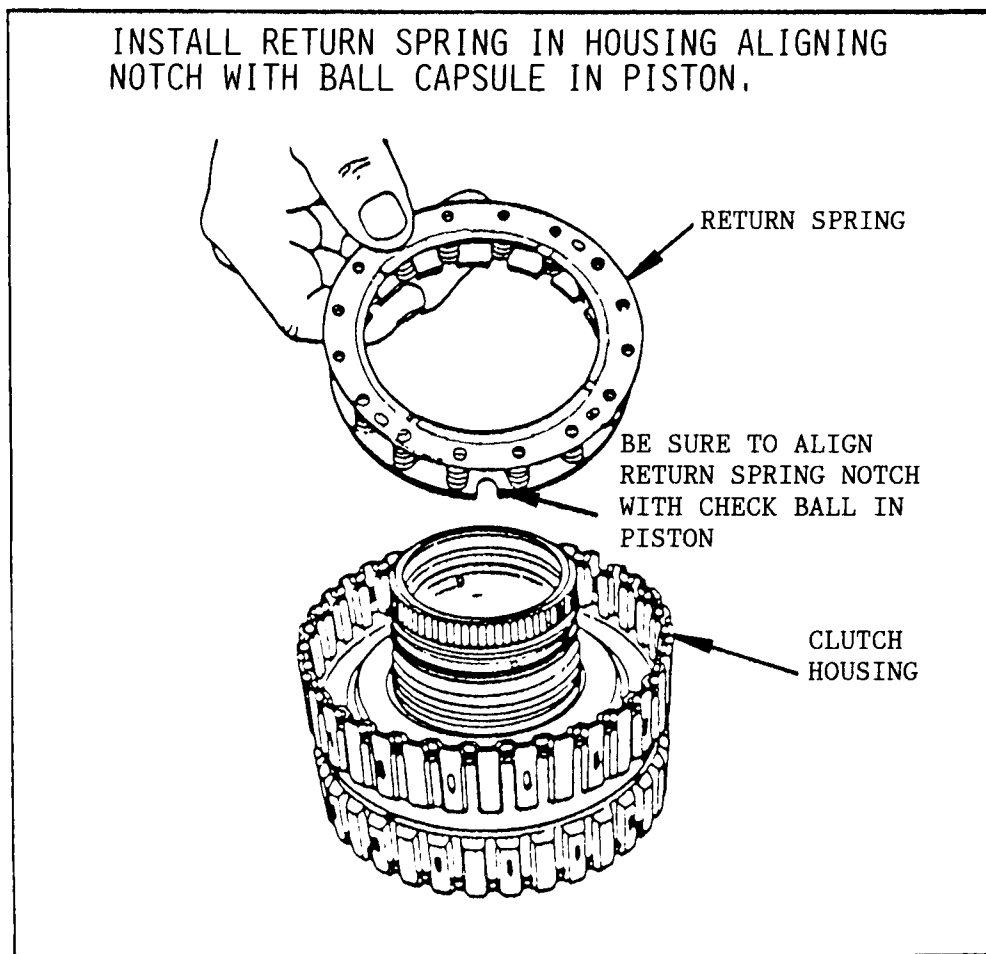

Figure 41
**CORRECTION:** Special care must be taken during the overhaul operation when re-assembling the direct clutch return spring over the direct clutch piston. Make sure that the notch in the spring bottom retainer (See Figure 41) is positioned properly over the check ball capsule so as not to block or restrict oil flow of the check ball assembly. Refer to Figure 41.